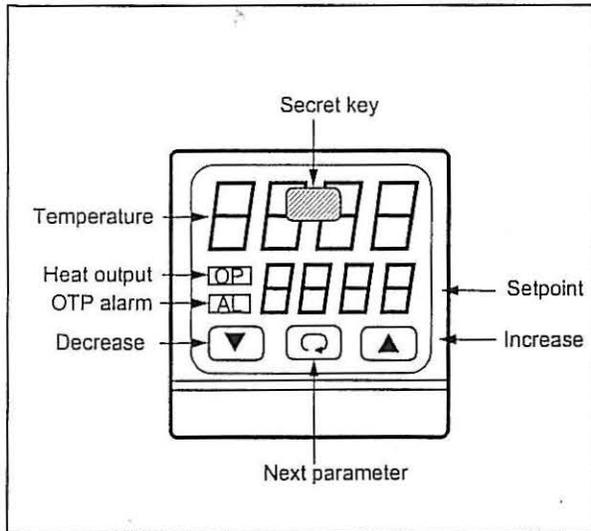

Figure 3. 91e Control Panel
4. Press ▲ or ▼ until the desired setpoint shows on the bottom line of the display (refer to Figure 3 on page 5).